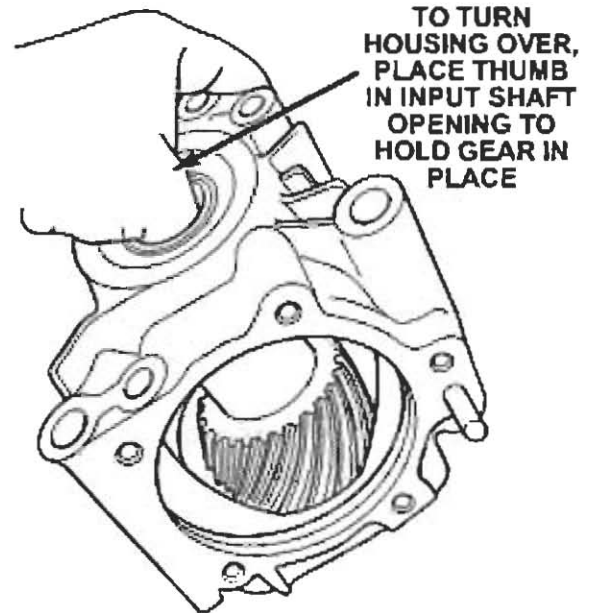

Figure 19
40. Place your thumb into the input shaft opening to hold the gear in position and then turn the gear housing over (Figure 19).